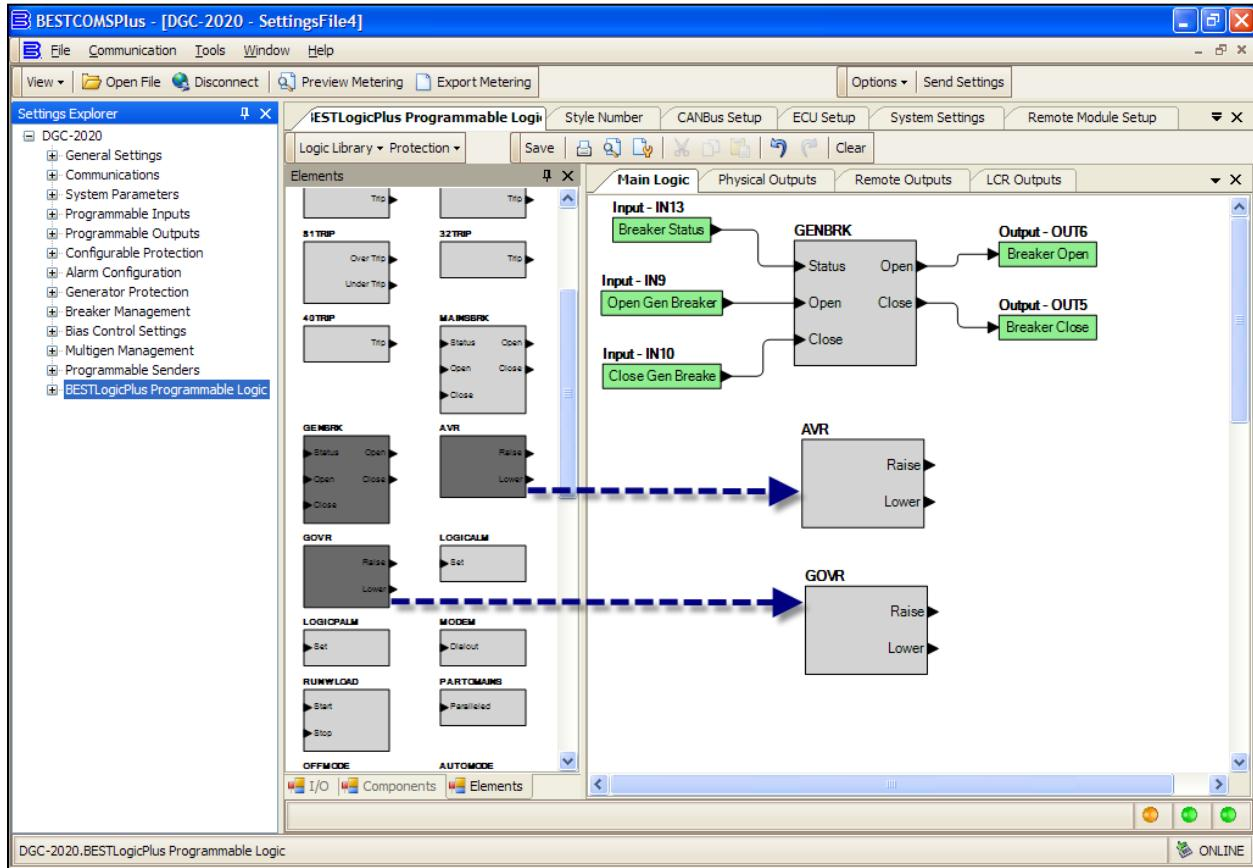

Figure 6-70. Settings Explorer, BESTLogicPlus Programmable Logic (Step 14)
14. If using the LSM-2020 to bias the voltage regulator and governor, no further setup is necessary. If using contact outputs, the output contacts should be set up to drive these functions. In the programmable logic, click on the *Elements* tab. Locate and drag the Governor and AVR logic blocks into the main logic. See Figure 6-70.